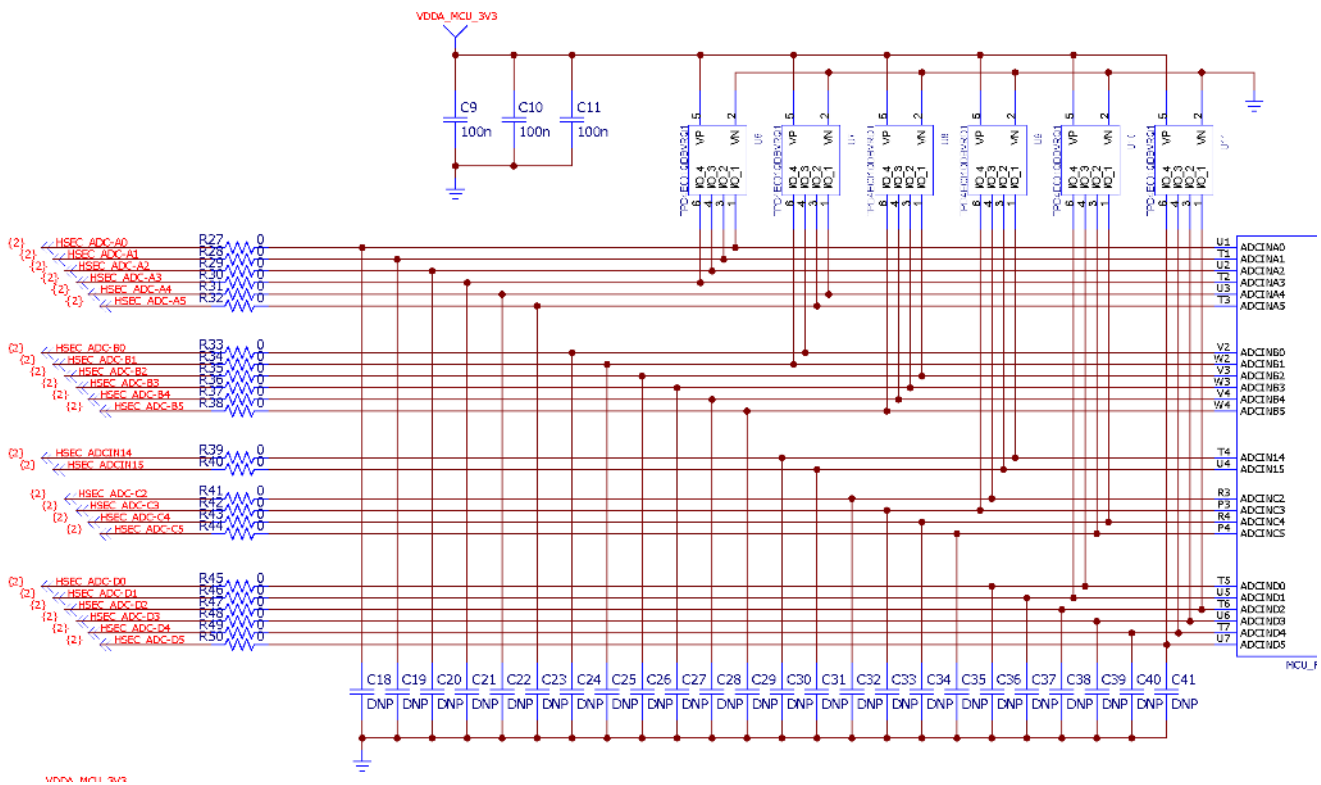

Figure 4-3. Partial Schematic Showing Default R and C values
On-board resistors and capacitors: By default (Figure 4-3), all inline resistors to the ADC pins are a simple 0-Ω shunt and all capacitors to the ground plane are not populated. While this circuit can be used to supply the ADC inputs with a voltage, likely both the resistor (R) and capacitor (C) will need to be populated based on the voltage source's characteristics. Referring to the *ADC Input Model*, the ADC input has its own RC network made up of the internal sample and hold capacitor, switch resistance, and parasitic capacitance. By changing the inline resistance and parallel capacitor, the input circuit can be optimized to assist with settling time and/or filtering the input signal. Finally, it is recommended in general to use Negative-Positive 0 PPM/°C (NP0/C0G) capacitors as these have better stability over temperature and across input frequencies than other types of capacitors.